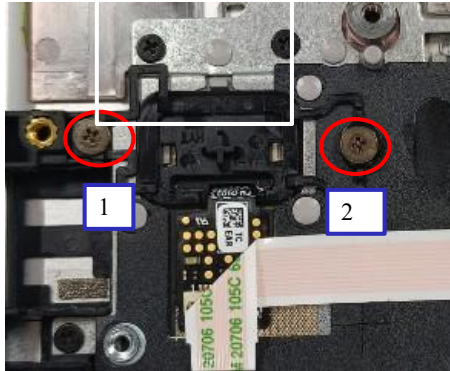

Figure 1
1. Remove Finger module screws * 2 (Fig. 1/2/3)